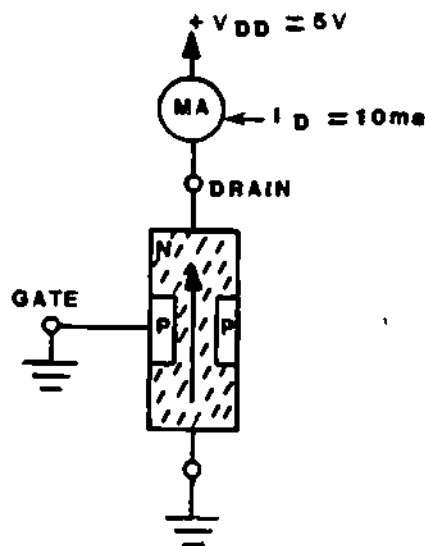

Figure 6
7. The effective cross-sectional area of the channel is the key to FET operation. Now let's apply a voltage across the bar of an N-channel JFET, as shown in Figure 6, to see what happens.